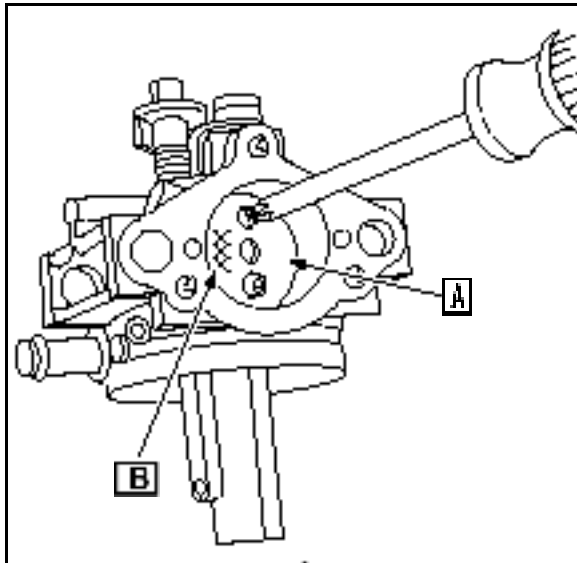

Fig. 107
5. Lay the throttle plate (A) on the shaft with the stamped numbers ([B] Fig. 107) to the left. Install two screws with lock washers.